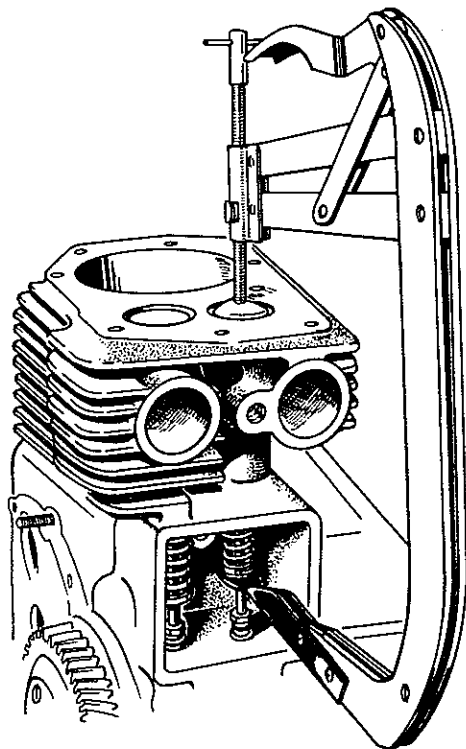

FIGURE 15-3 VALVE SPRING COMPRESSOR
4. Using a valve spring compressor, disassemble the valve spring assemblies, Figure 15-3.